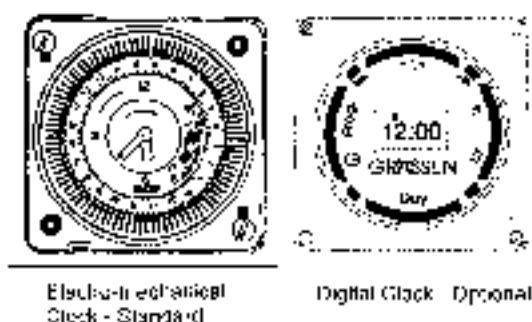

Figure 1.6 Front Panel Mounted Clock Options for Systemate III
- j) Electro-mechanical clock (Figure 1.6) to control the space heating (in conjunction with a room thermostat if fitted).